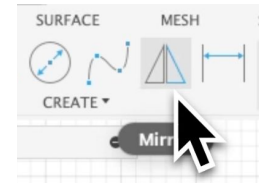
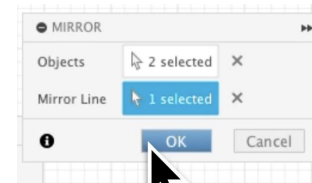

Figure 1.8
Figure 1.9
- Finally, use the **'Mirror'** tool under **'Create'** (see Figure 1.8). Select the shape and the construction line as the mirror line, then click OK in the mirror dialog box (see Figure 1.9). This ensures symmetry and saves time by reducing repetitive sketching.